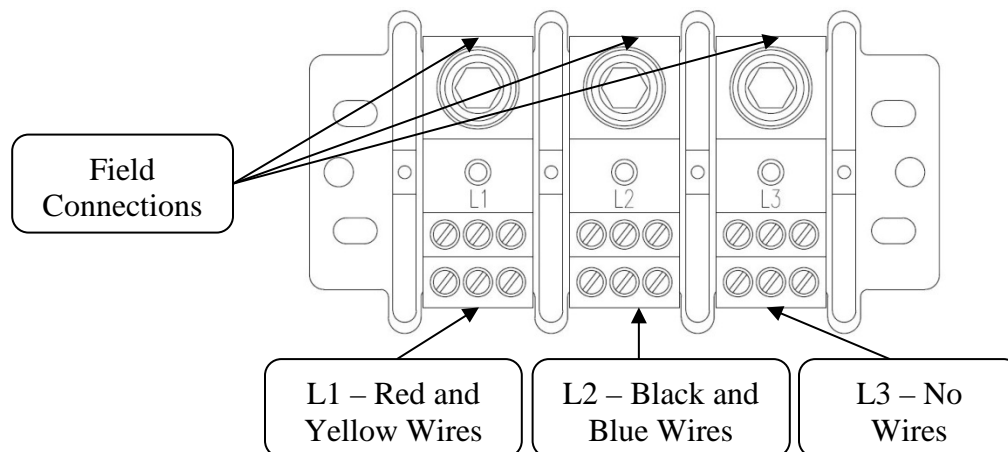

Figure 12. Single Phase Terminal Block Connections
3. Connect blue wires to terminal L-2 of the terminal block. The black wires should remain connected to L-2 of the terminal block as it was originally manufactured. Figure 12 shows the new single phase wire configuration (no more than 2 wires per port opening).